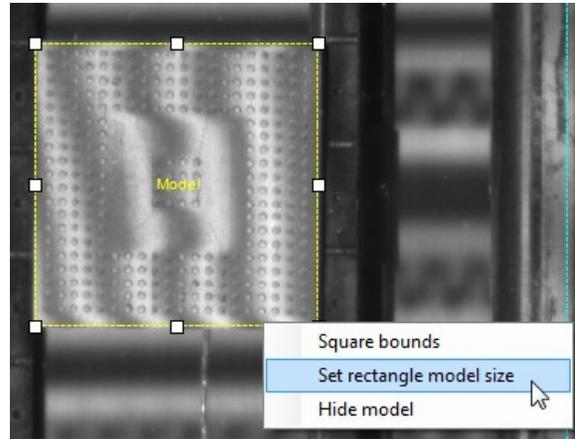

Figure 2.53 Set Model Size
4. Size the yellow 'Model' ROI so that it exactly contains one of the parts. Right click on the model ROI and select 'Set rectangle model size' (**Figure 2.53**).
6. Right click on the camera window and click Acquire (**Figure 2.53**).